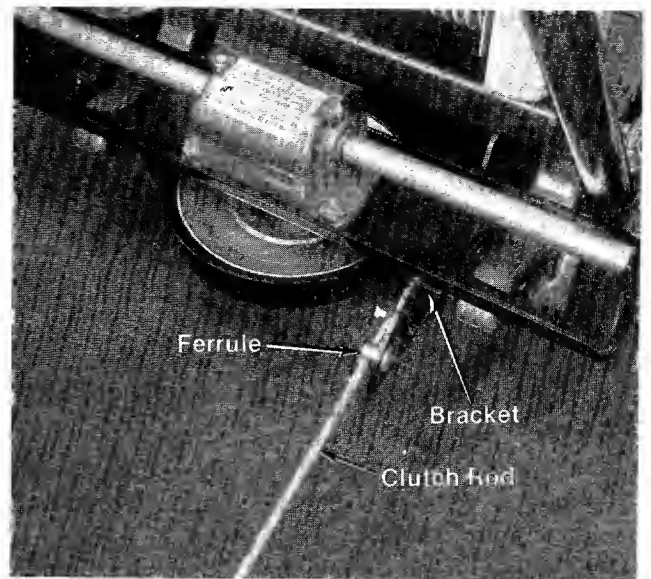

FIGURE 7
9. Place the ferrule with the smaller hole, in the bracket on the right rear side of the mower and thread in the longer (39 inches) clutch rod until 1 3/8" extends through the ferrule. (See figure 7.)